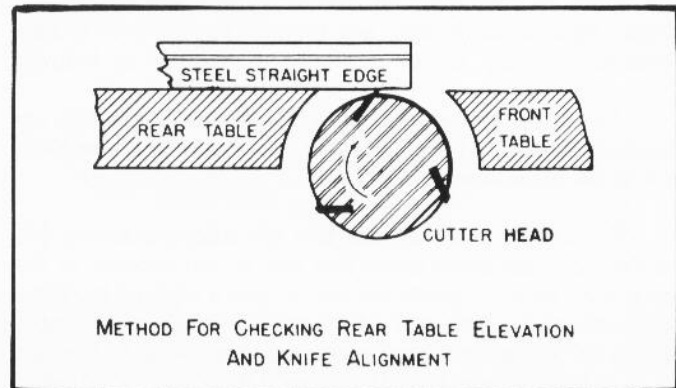

Fig. 17
3. Place a straight edge on the rear table, extending over the cutterhead as shown in Fig. 17.